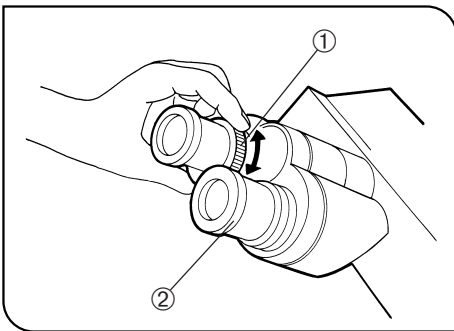

Fig. 9
### 2 Adjusting the Diopter (Figs. 9 & 10)
2. Looking through the eyepiece with the diopter adjustment ring ①, turn it to focus on the specimen. (Fig. 9)
1. Looking through the right eyepiece with your right eye, turn the top of the eyepiece ② until a clearly defined double crossline can be seen in the field of view. (Figs. 9 & 10)
3. Looking through the left eyepiece with your left eye, turn the diopter adjustment ring ① to focus on the specimen.